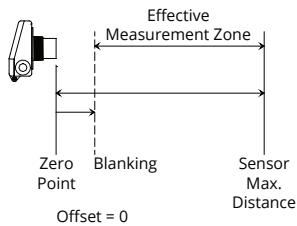
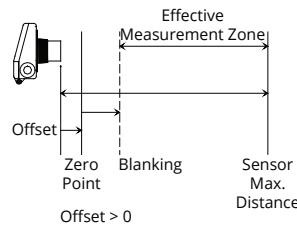
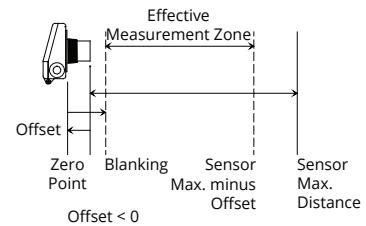

Figure 3.4
Figure 3.5
Figure 3.6
❶ IMPORTANT: *Blanking* is always measured from the Zero Point of the sensor. See Figures 3.4 - 3.6.
Offset is used to change the Zero Point of the sensor. This is not the zero output (4 mA, 0 V, etc.) point of the sensor. The Zero Point of the sensor is the point from which the calculated distance is measured. When the *Offset* is set to 0, the Zero Point of the sensor is at the face of the transducer (See Figure 3.4). A positive setting will move the Zero Point forward, in front of the sensor face (See Figure 3.5). Setting the *Offset* to a negative number will move the Zero Point backward, behind the sensor face (See Figure 3.6).
In all cases, Blanking is measured from the end of *Offset*, and the effective measurement zone of the sensor begins at the forward end of Blanking. If *Offset* is more negative than Blanking is positive, the net difference will be a loss in sensor maximum range (See Figure 3.6).